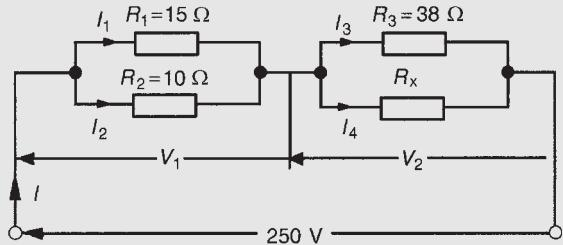

Figure 5.26
**Problem 13.** For the circuit shown in Fig. 5.26 calculate (a) the value of resistor  $R_x$  such that the